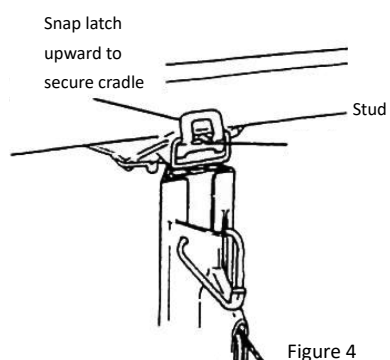

Figure 4
- Slide the tapered plates on the crossarms into the tapered sockets on the cradle. (Figure 4)